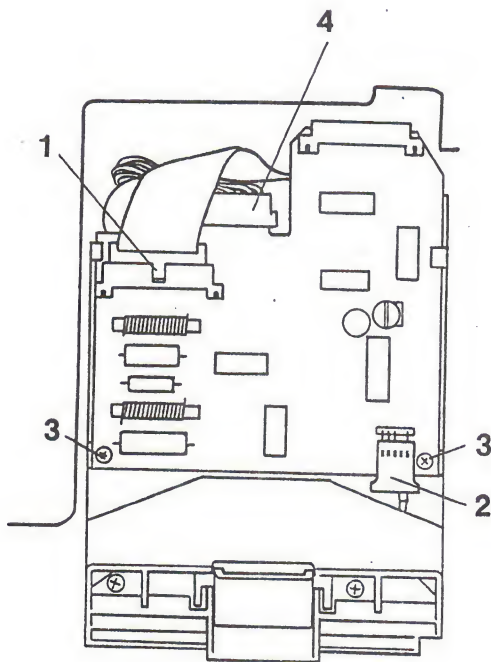

FIGURE 5
4. Disconnect the disk ribbon cable. If it is hard to remove, work it off by pushing on the center tab or the sides of the plug with a small screwdriver. DO NOT PULL IT OUT BY THE CABLE! (See Figure 5, Item 1).
5. Disconnect the read/write head cable. (See Figure 5, Item 2).
NOTE: Do not try to remove the motor control cable yet. (see Figure 5, item 4).
6. Remove the two small Phillips head mounting screws which hold the analog board at the front of the casting. (See Figure 5, Item 3).
8. Remove the motor control plug (Figure 5, Item 4) by disengaging the four nylon locking pawls which engage the two holes in the board from both top and bottom. Lift the pawls free and disconnect the motor control cable.